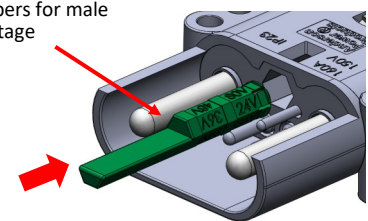

Figure 9 (Top Housing removed for clarity)
- b. Push the pin forward, verifying that the pin is in the right orientation. (Figure 9)